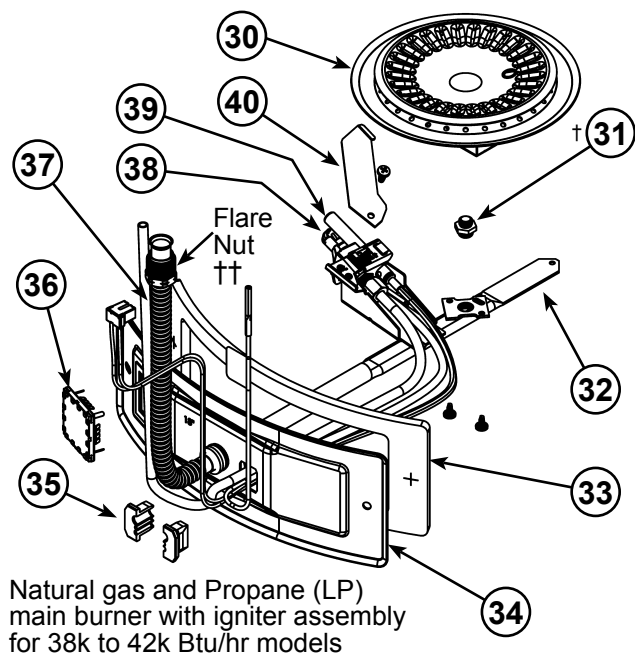
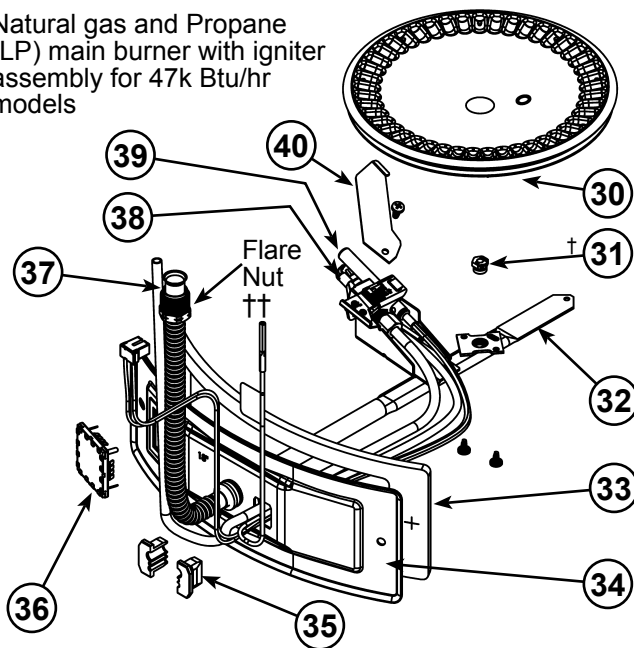

Figure 47
Figure 48
- 12 Manifold Door Assembly (behind outer door) (see Figure 3 & Figure 4) (see also **Figure 47 & Figure 48**)
- 15 Flexible Manifold Tube (see Figure 3 & Figure 4) (see also **Figure 47 & Figure 48**)
- 30 Sheet Metal Burner (see Figure 3 & Figure 4) (see also **Figure 47 & Figure 48**)
- 31 Gas Orifice (see Figure 3 & Figure 4) (see also **Figure 47 & Figure 48**)
- 32 Gas Manifold (see Figure 3 & Figure 4) (see also **Figure 47 & Figure 48**)
- 33 Manifold Door Gasket (see Figure 3 & Figure 4) (see also **Figure 47 & Figure 48**)
- 34 Manifold Door (see Figure 3 & Figure 4) (see also **Figure 47 & Figure 48**)
- 35 Two Piece Grommet With Clip (see Figure 3 & Figure 4) (see also **Figure 47 & Figure 48**)
- 36 Viewport (see Figure 3 & Figure 4) (see also **Figure 47 & Figure 48**)
- 37 Flexible Manifold Tube (see Figure 3 & Figure 4) (see also **Figure 47 & Figure 48**)
- 38 Pilot (see Figure 3 & Figure 4) (see also **Figure 47 & Figure 48**)
- 39 Thermopile (see Figure 3 & Figure 4) (see also **Figure 47 & Figure 48**)
- 40 Pilot Shield (see Figure 3 & Figure 4) (see also **Figure 47 & Figure 48**)